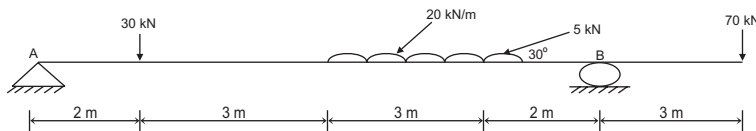

Fig. 3
2.22 Determine the reaction of the beam with overhang as shown in fig. 3.